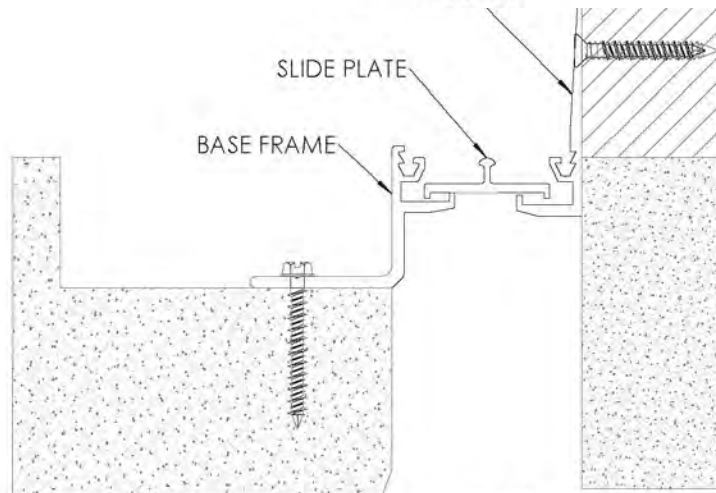

FIGURE 4
4. Place slide plate (not required on 1” joint sizes) in the lower channel of the base frame and wall frame with the bent ends of the plate pointing downwards. **See Figure 4**